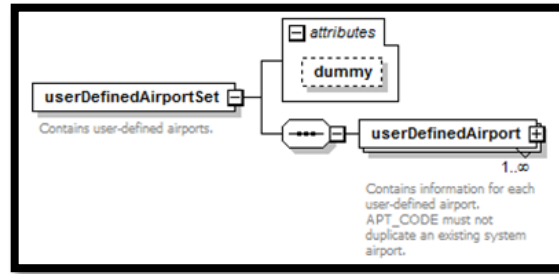

Figure 49. XML `userDefinedAirportSet`
1. AsifXml/study/userDefinedAirportSet/userDefinedAirport (Figure 49):